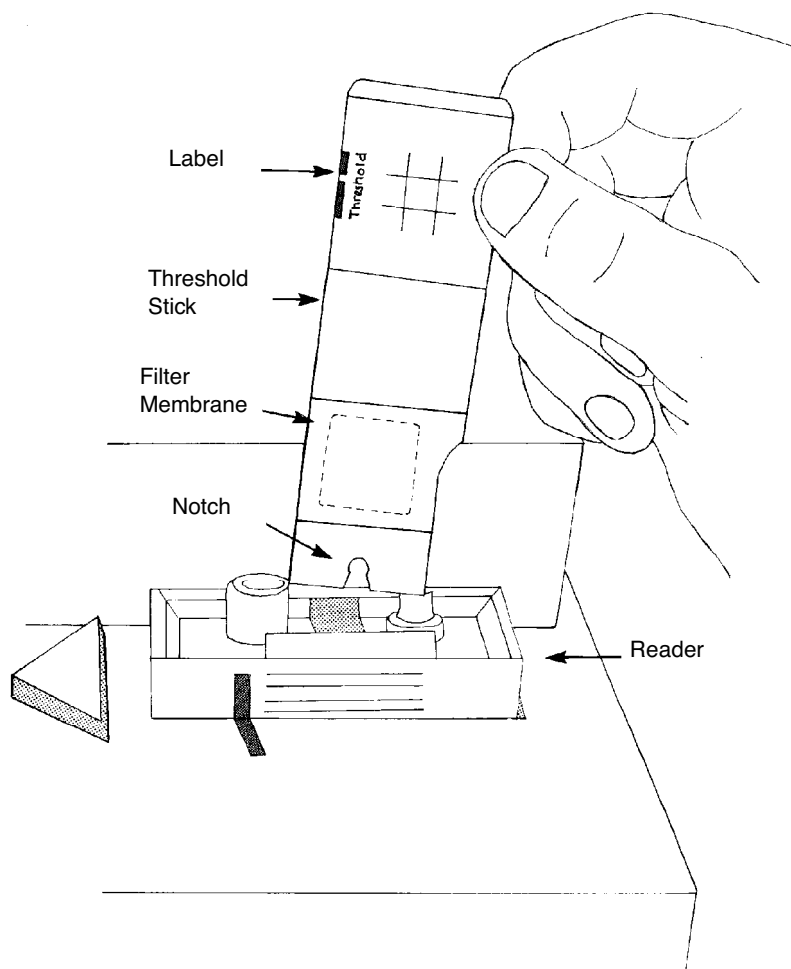

Figure 3-15: Inserting Stick Into Reader
- 6) Insert the stick in the Reader. The notched end of the stick should be down and the label facing you (Figure 3-15).